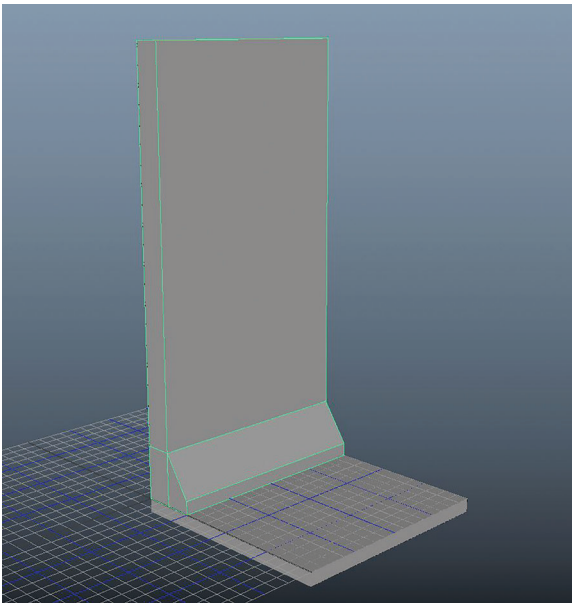

FIGURE 1.51 Creating trim for our wall_01.
Step 4: Add bottom trim. Add an edge loop toward the bottom of the wall module. Extrude out the bottom face and move the top edge of the extruded face down to create a bottom trim (Figure 1.51); name this model wall_01.